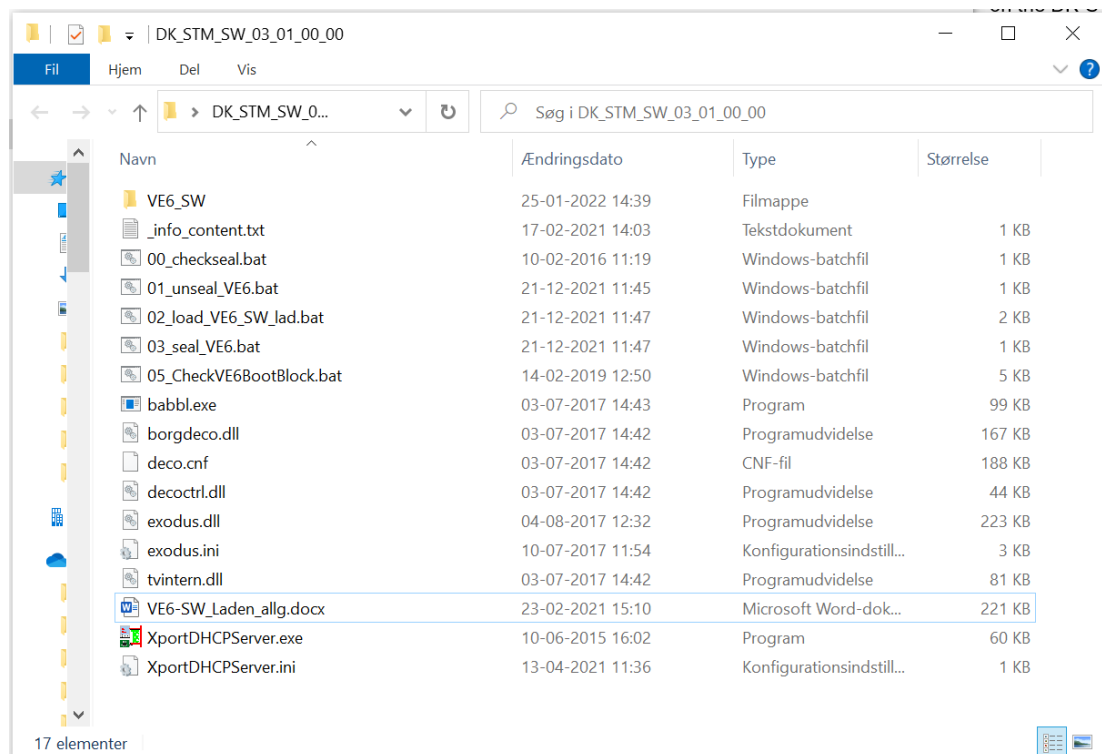

Figure 2 - SW directory example
- See Figure 2 for SW directory example.
- See Figure 2 for SW directory.
- I SW directory (see Figure 2) start **01\_unseal\_VE6**
- See Figure 2 for SW directory
- In the SW directory (see Figure 2) start **02\_load\_VE6\_SW\_lad**